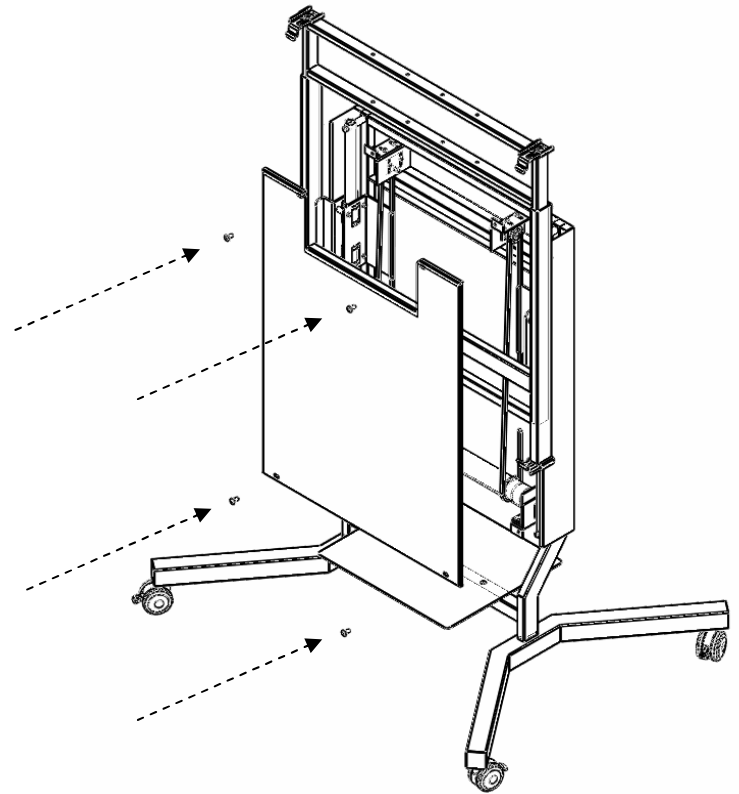

Figure 7.1
- 3) Reinstall the Front cover to the Mid-Section and tighten the four Screws using the Allen Key **(E)** (see figure 7.1).